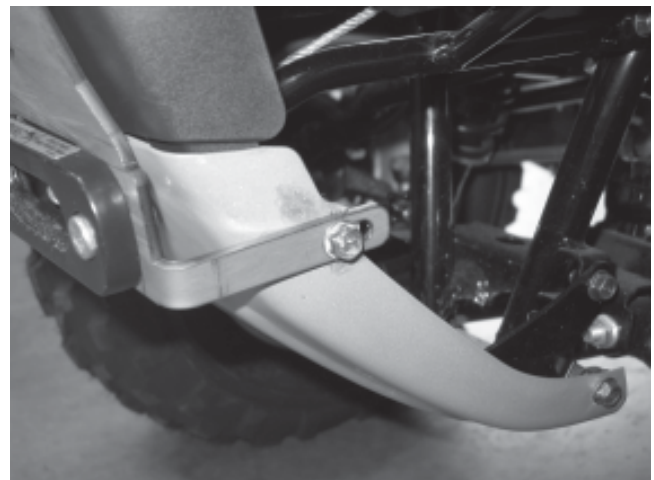

Figure 8 Lower Fairlead Bracket
4. Attach legs of fairlead bracket (A1) to skid plate bolt holes using skid plate bolts, M8 x 1.25 x 25mm. See Figure 8.